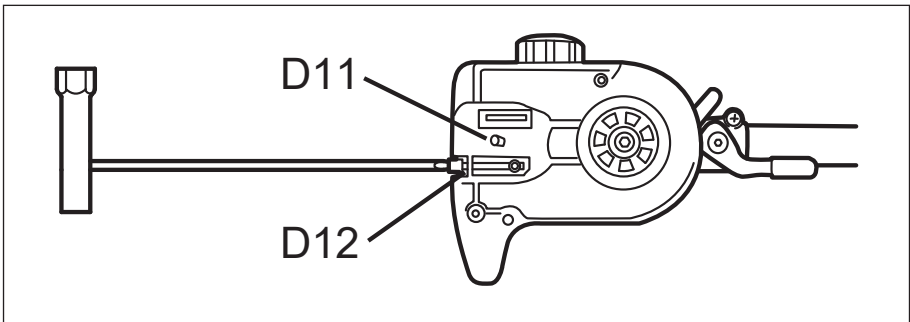

Fig. 7c
d). Ensure that the tension pin (D11) is adjusted to its far right position. If not, turn the tension screw (D12) anticlockwise with the slotted screwdriver (F4). (See Fig. 7c)